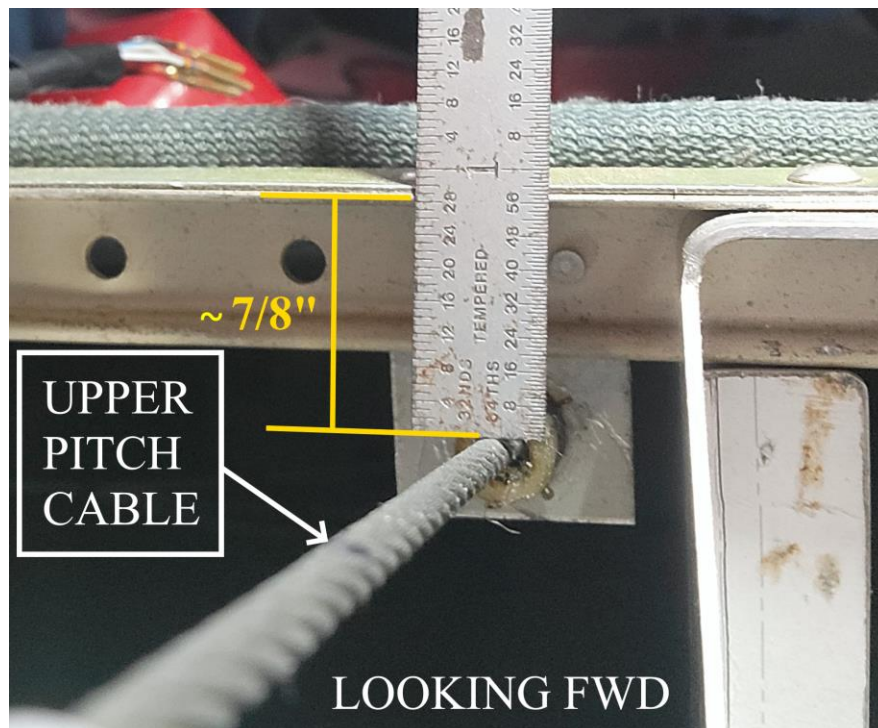

FIGURE 4-11 ANGLE TO UPPER PITCH CABLE CLEARANCE
- 4.2.5 Verify the upper pitch cable is approximately 7/8" (0.875") below the angle. Refer to Figure 4-11.